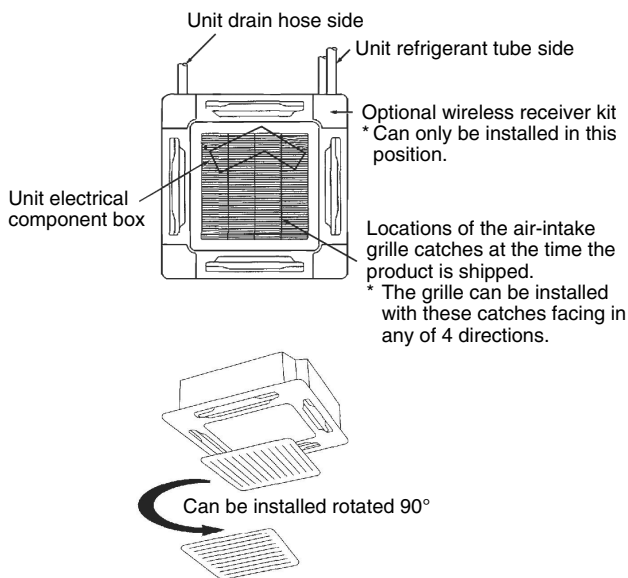

Fig. 9-15
- With this ceiling panel, the directions of the air-intake grille lattices when installing multiple units, and the position of the label showing the company name on the corner panel, can be changed according to customer requests. However, the optional wireless receiver kit can only be installed at the refrigerant-tubing corner of the ceiling unit. (Fig.9-15)